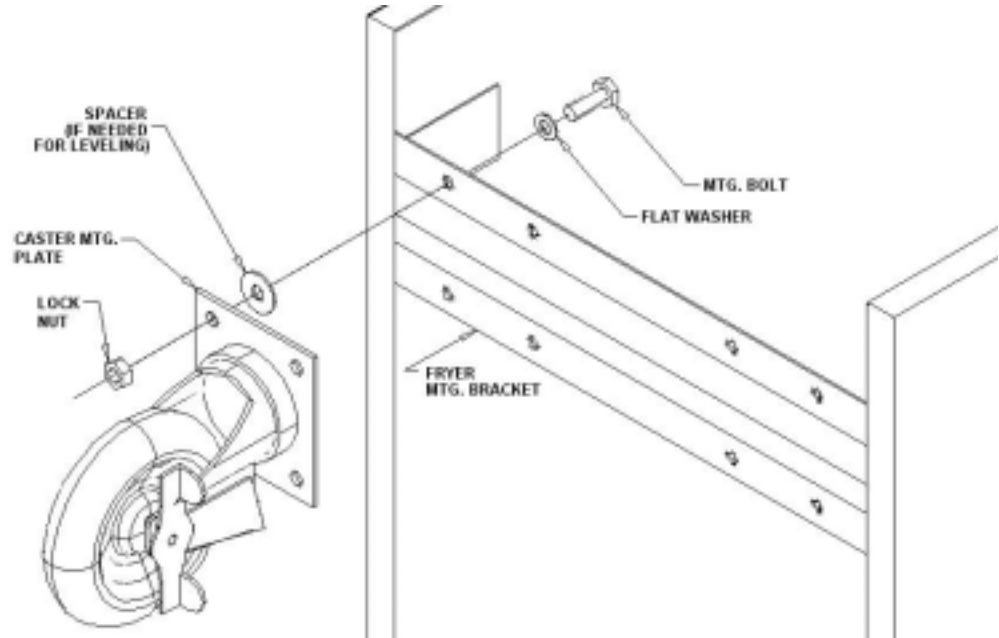

Figure 4. Typical Caster Installation
2. Position the side of the fryer flat on the carton, exposing the fryer bottom mounting brackets for caster installation, as shown in Figure 4.
4. Position the side of the fryer on the shipping carton, exposing the bottom of the fryer with the caster mounting plates (Figure 4).